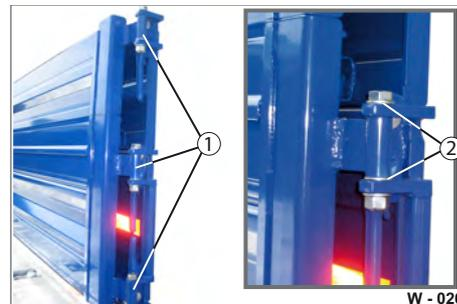

Fig. 26 Rear platform gate as revolving door
- ▶ Clean the hinge mounting (Fig. 26/1) with a clean, dry cloth.